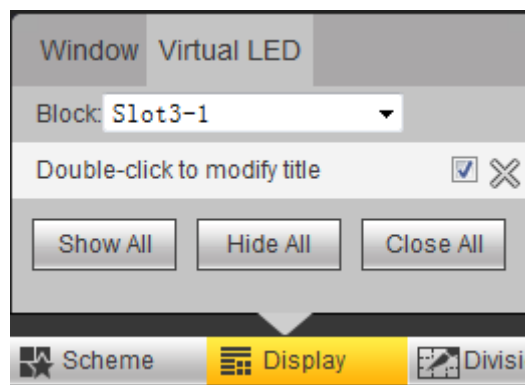

Figure 3-33
Step 5 Select "Virtual LED" tab of "Display". The system displays Figure 3-33